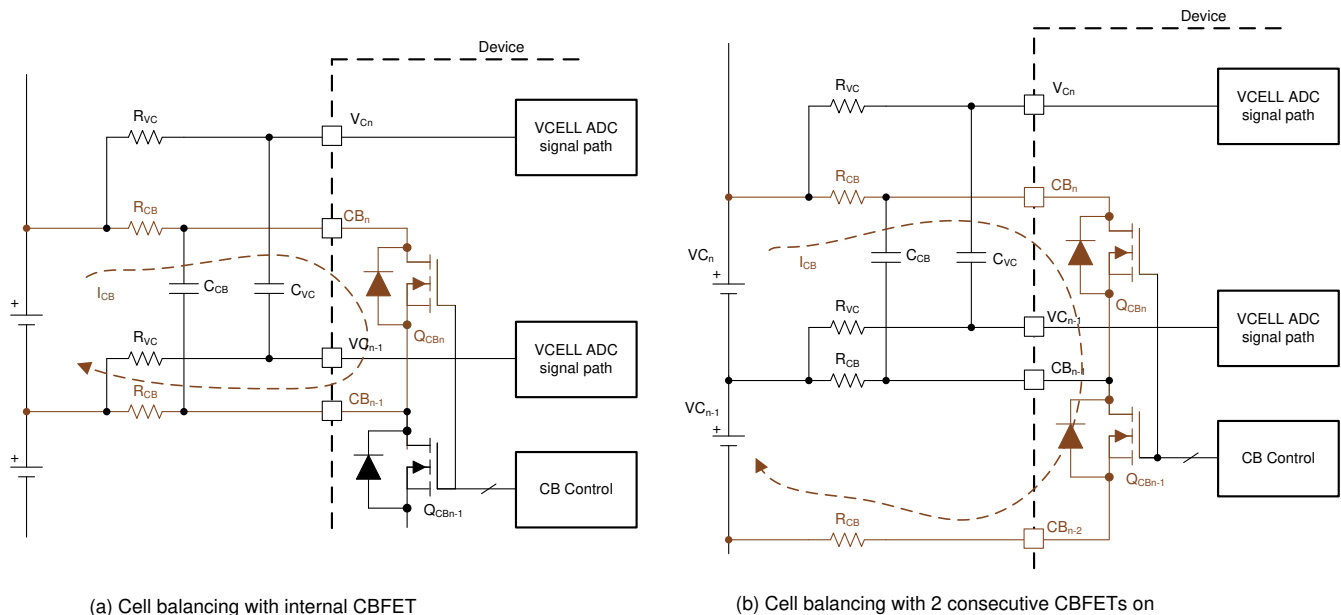

Figure 8-14. Internal Cell Balancing and the Flow of Balancing Current
- Balancing with no consecutive CBFET on (Figure 8-14 (a)): $I_{CB} = V_{Cell} / ((2 \times R_{CB}) + R_{DS(on)_{QCB}})$
- Balancing with two consecutive CBFETs on (Figure 8-14 (b)): $I_{CB} = (\text{Sum of two } V_{CELL}) / ((2 \times R_{CB}) + R_{DS(on)_{QCBn}} + R_{DS(on)_{(QCBn-1)}})$
- Manual balancing control (*[AUTO_BAL] = 0*): With this method, the device will turn on the CBFETs that have non-zero balancing timer settings once *[BAL_GO] = 1* is received. There is no odd and even channel switching during the cell balancing and the *BAL_CTRL1[DUTY2:0]* setting does not apply under this control. Host MCU can enable two consecutive CBFETs with this method. When two consecutive CBFETs are enabled with both channels connected to battery cells, the balancing current is significantly different compared to no adjacent CBFET being on (Figure 8-14). The *DEV_CONF[NO_ADJ_CB]* bit is provided to avoid inadvertent enabling of an adjacent CBFET for a system that is not intended to have an adjacent channel on for balancing. In this control method, the device is relying on the MCU to enable the proper channels. If the MCU sends *[BAL_GO] = 1* but the CBFETs are enabled with an invalid condition, the device will not start balancing and will set *BAL_STAT[INVALID_CBCONF] = 1*. Invalid configurations are either: